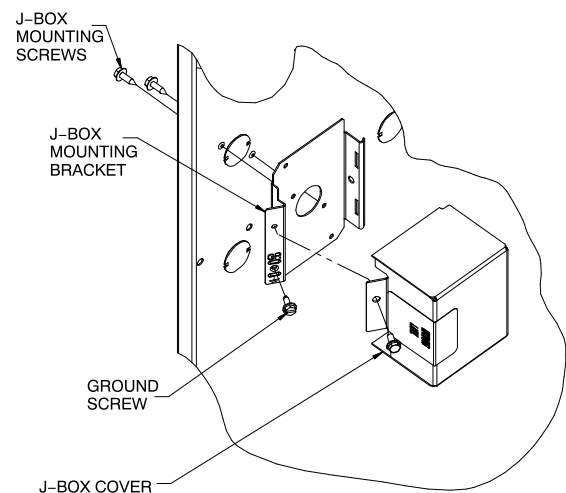

Fig. 35 – Installing J-Box (When Used)
The J-Box cover, mounting bracket and screws are shipped in the loose parts bag included with the furnace. See Fig. 35 for J-Box mounting locations.
1. Install J-Box mounting bracket to inside of furnace casing (Fig. 35).
5. Connect field ground wire and factory ground wire to green ground screw on J-Box mounting bracket as shown in Fig. 35.
7. Attach furnace J-Box cover to mounting bracket with screws supplied in loose parts bag. Do not pinch wires between cover and bracket. See Fig. 35.
4. Connect field ground wire and factory ground wire to green ground screw on J-Box mounting bracket as shown in Fig. 35.